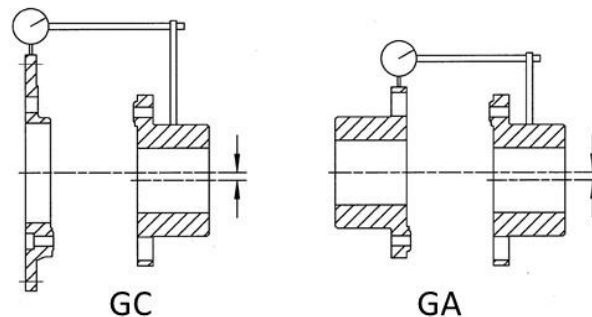

Figure 6: Parallel Misalignment
- e) Parallel Offset. Rigidly mount a dial indicator on one hub or shaft, reading the other hub flange outside diameter, as shown in Figure 6. Compensate for indicator set-up sag. Rotate both shafts together. Adjust the equipment by shimming and/or moving so that the indicator reading is within Table 2 values.